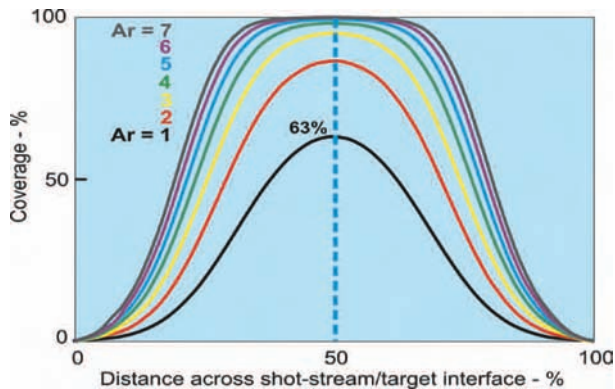

Fig.3 Effect of maximum indent ratio, Ar , on coverage variation across the interface between a uniform conical shot stream and a flat target.
Equation (3) allows us to estimate the variation of coverage across shot peening traces and is plotted as fig.3 for different values of Ar_{max} . Here a first pass, 1, has $Ar_{max} = 1$ with a maximum coverage of 63%. This first pass gives a coverage that varies widely across the peened trace. Subsequent equal passes, 2 to 7, impose increasingly uniform coverage about the centerline.